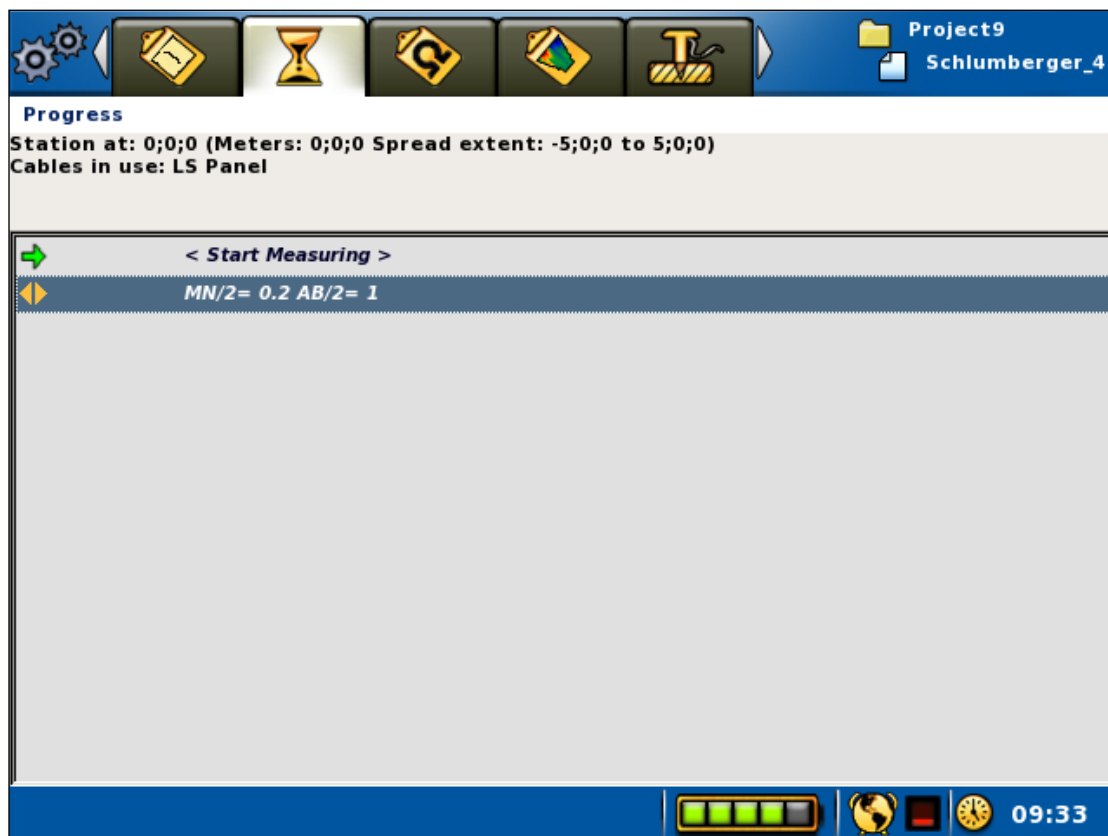

Figure 65 The Progress view in VES mode
- The “*Measure/Progress*” View (Figure 65) will be used to start and stop measurements as usual. The active electrode position, that is the electrode position to be measured, can also be set from this *View*.
In VES mode a line with a “MN/2 and AB/2” electrode position will be shown on the *Progress View* (Figure 65). This is the active electrode position.
The *Electrode Positions View* (Figure 66) lists all the electrode positions from the protocol file. The dark yellow arrow is placed on the line that corresponds to the active electrode position. This electrode position is the one that is shown on the second row of the *Progress View* (Figure 65). The *Electrode Positions View* will be empty when the instrument is not in VES mode.